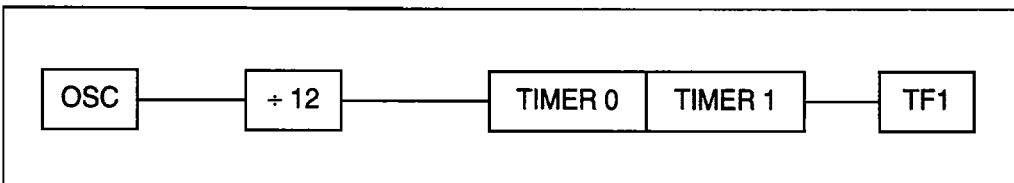

Figure 12 : 32 Bit Timer Configuration.
- Figure 12 illustrates the 32 bit TIMER mode.